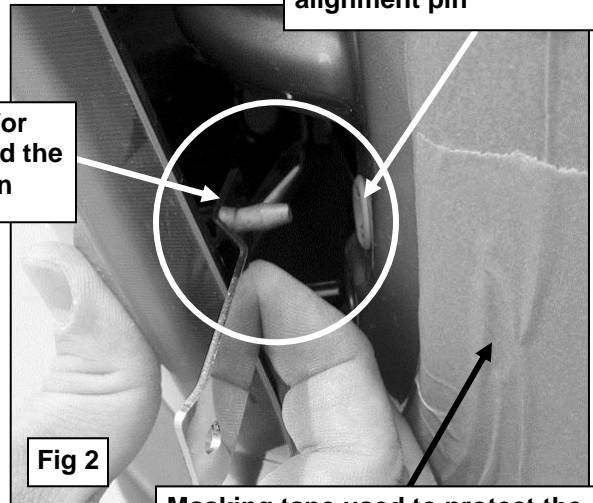

Fig 2
2. **IMPORTANT!** Cover the painted edge around the taillight housing with masking tape to protect the finish of the vehicle when removing the taillight housing and installing the Taillight Guard, **(Figure 2)**.
5. Attach one of the Support Brackets to the alignment pin located behind the taillight, **(Figure 2)**. Hold the Support Bracket in place as you re-install (gently push) the taillight assembly back onto the vehicle. Take care to properly align the pin with the socket.